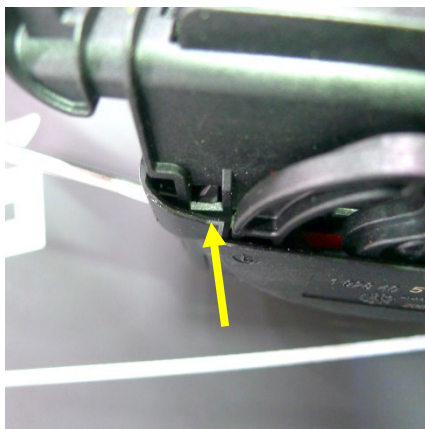
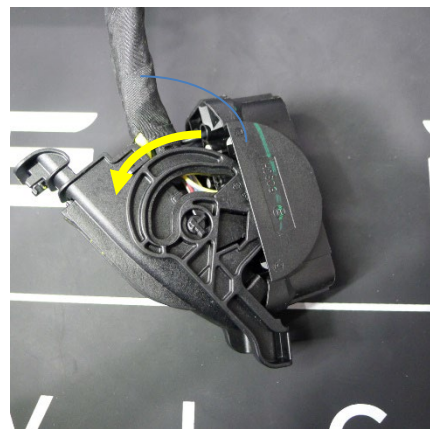

Figure 7
Figure 8
10. Release the tabs (x2) that attach the rear cover to connector X151 (Figure 7), swing the rear cover out (Figure 8), and then remove the rear cover from the connector.